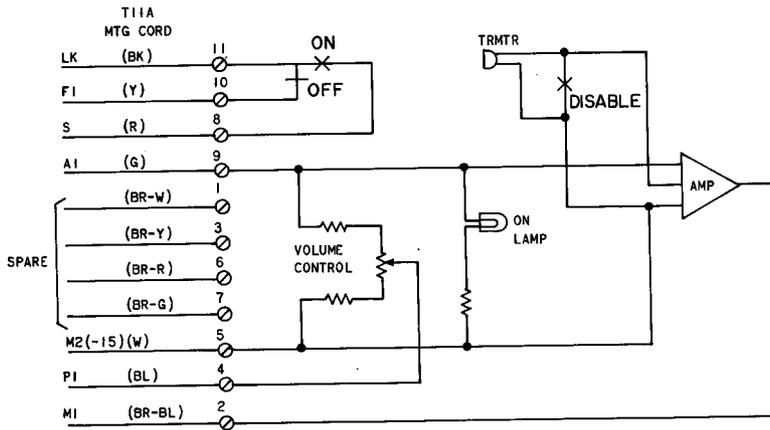
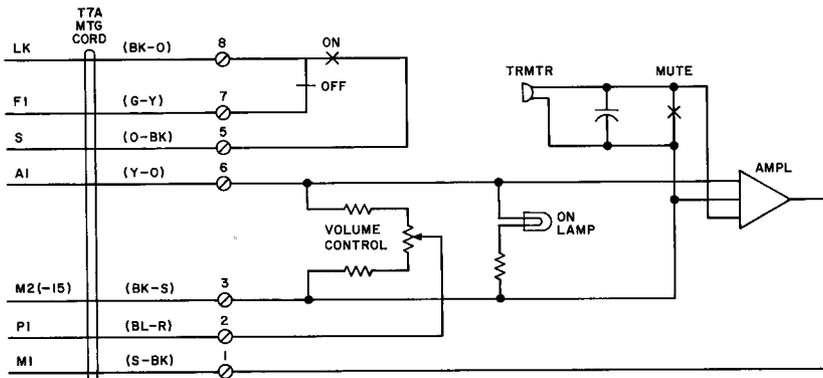

Fig. 3—666A (MD) Transmitter Connections
Fig. 4—666B (MD) Transmitter Connections
2.09 External 666-type transmitters consists of an AC1 transmitter unit, transistorized amplifier, etc. The 666A (MD) is equipped with a T11A mounting cord (Fig. 3). ♦The 666B (MD) has a T7A cord (Fig. 4).♦